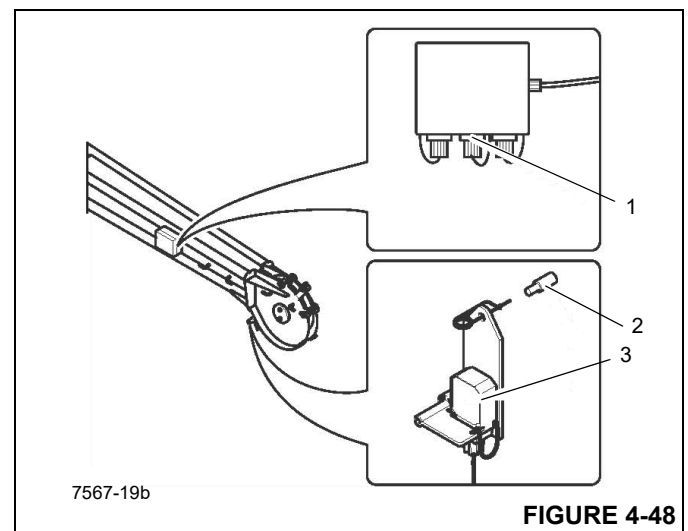

FIGURE 4-48
1. Remove the plug from the socket (1) (Figure 4-48).
2. Remove the A2B switch assembly (3) from the pin (2).